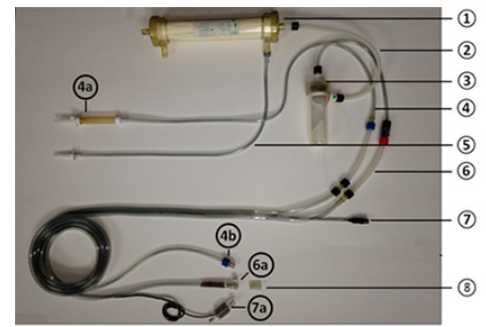
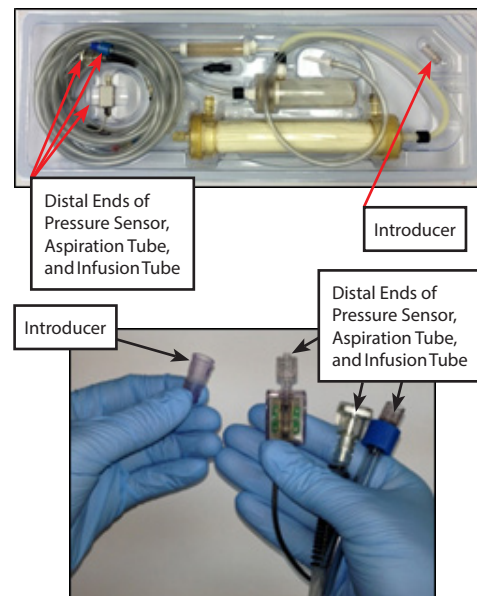
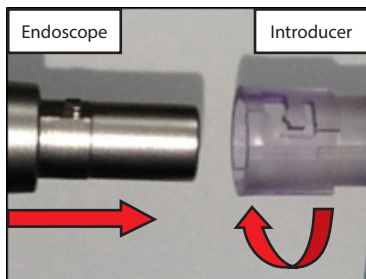
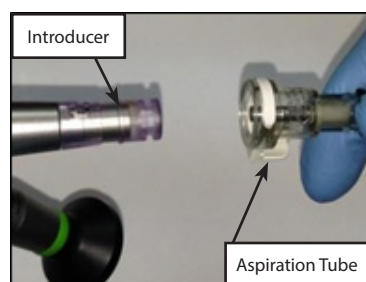

Figure 2: Fluid Management Accessories
Figure 14
Figure 17
Figure 19
- One (1) Fluid Management System (See Figure 2 for package contents)
- One (1) Biohazard Sticker
- One (1) Symphion System Package Insert
**SCRUB NURSE** – Tear the tubing tape to disconnect the tubing. Remove the Introducer (Fig. 2 Item 8), and the tubing from the tray by grabbing the distal ends of the Infusion, Aspiration tube, and Pressure Sensor as shown in figure 14. The remainder of the tubing will uncoil from the tray as the tubing is pulled.
- Connect the Introducer (Fig. 2, Item 8) to the proximal end of the Endoscope (Fig. 17) by aligning the grooves on the Endoscope with the slots on the introducer. Once aligned rotate counter clockwise until a click is felt (approximately 15°).
- Connect the Aspiration Tube (Fig. 2, Item 6a) to the proximal end of the Introducer (Fig. 19).
- Connect the luer on the Infusion Tube (Fig. 2 Item 4b) to either of the two luer connections on the Endoscope (Fig. 20.).
- Connect the luer on the Pressure Sensor (Fig. 2 Item 7a) to the available luer connection on the Endoscope (Fig. 21).